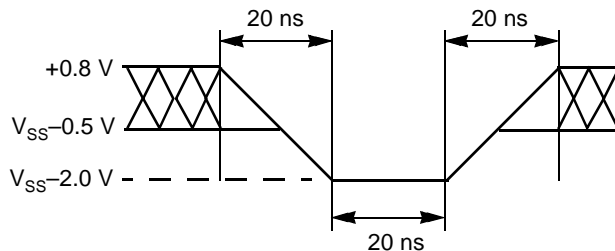
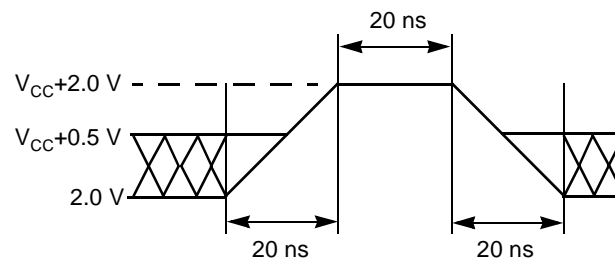

Figure 13. Maximum Negative Overshoot Waveform
Figure 14. Maximum Positive Overshoot Waveform
1. Minimum DC voltage on input or I/O pins is -0.5 V . During voltage transitions, input or I/O pins may overshoot V_{SS} to -2.0 V for periods of up to 20 ns. Maximum DC voltage on input or I/O pins is $V_{CC} + 0.5\text{ V}$. See Figure 13. During voltage transitions, input or I/O pins may overshoot to $V_{CC} + 2.0\text{ V}$ for periods up to 20 ns. See Figure 14.